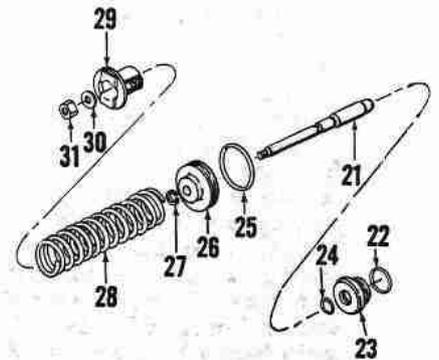

Fig. 270-Exploded view of Servo 2 assembly and piston rod guide.
To reassemble servos, follow procedure as outlined for Servo 1 in paragraph 259, making sure that sharp edge of snap ring (6—Fig. 269 or 27—Fig. 270) is placed away from piston. Install new sealing "O" rings on pistons and piston rod guides and in guide bores. Lubricate the "O" rings with petroleum jelly and install guides over the piston rods with small diameter of guides away from pistons. Insert the assemblies in their bores. Push against outer end of Servo 3 while slowly backing out the Band 3 adjusting screw; stop turning adjusting screw immediately when servo contacts inner end of bore and stops moving inward. Repeat procedure as outlined to install Servo 2 assembly. **CAUTION:** If either the Band 2 or Band 3 adjusting screw is
261. Exploded view of the Servo 2 assembly is shown in Fig. 270 and Servo 3 assembly in Fig. 269. Note that Servo 3 has an inner spring (4) and an outer spring (5). Check servo springs against the following specifications: